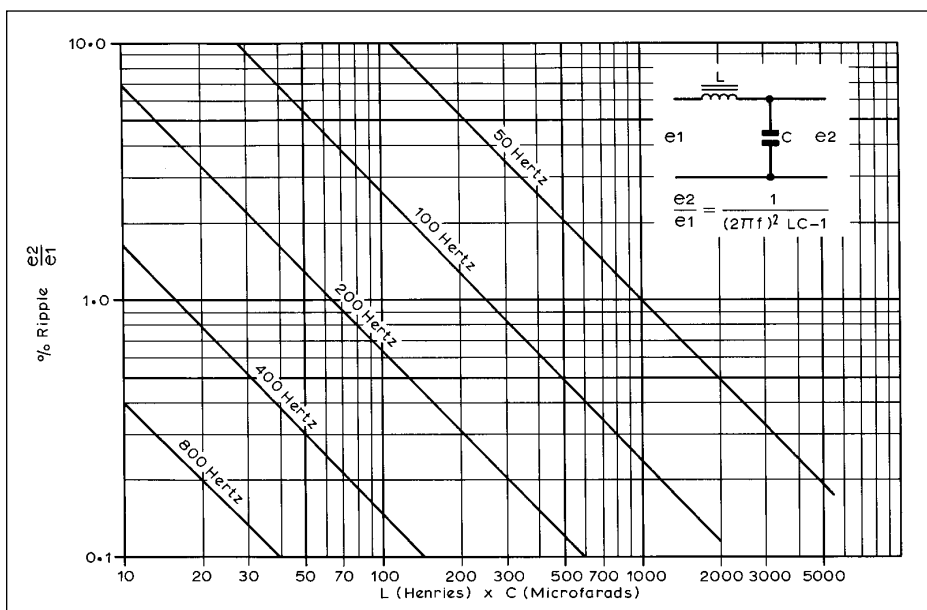

Fig 24.15: Relationship between large ripple and product of LC
Care must be taken that L and C do not resonate at the ripple frequency or any harmonics thereof. For a full wave circuit on 50Hz, the lowest ripple component is at 100Hz and the LC product is 2.53 for resonance. Normally LC is very much higher than this (see Figs 24.15 and 24.16). Note that the choke should be designed so that it does not become magnetically saturated at full DC output. An air gap in the core will help in this respect. The 'swinging choke' is so designed that it does approach saturation at full output and has a higher inductance at low currents where it is needed to satisfy equation (3).